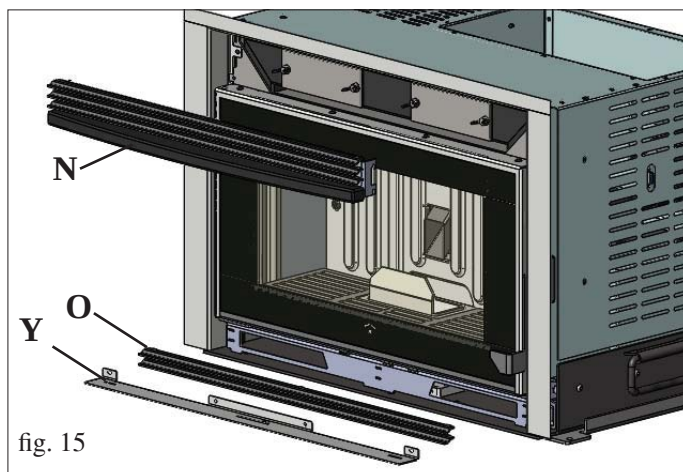

fig. 15
- Remove the slotted-in upper grille (**N** – Fig. 15), the lower grille (**O** – Fig. 15) and the metal profile plate (**Y** – Fig. 15) using the screws.